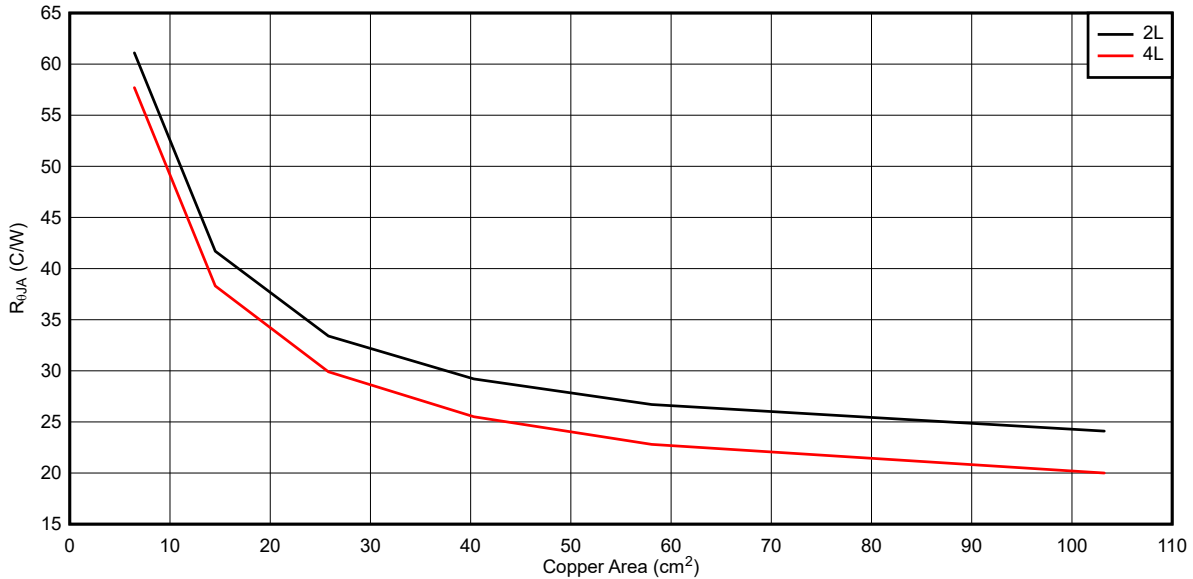
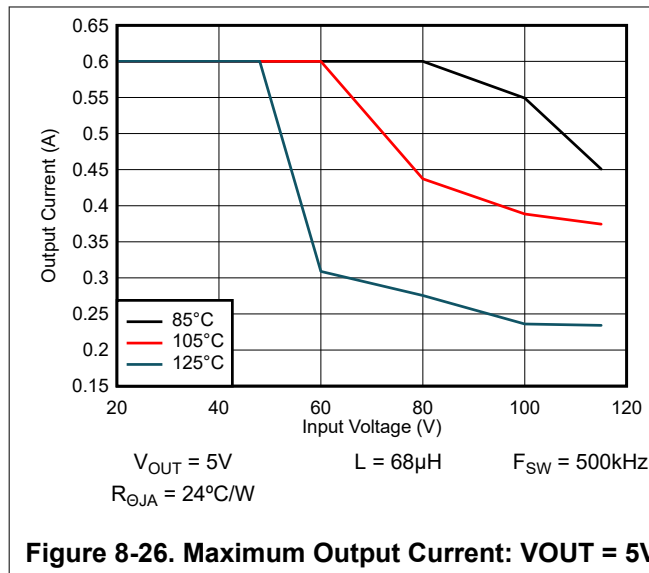
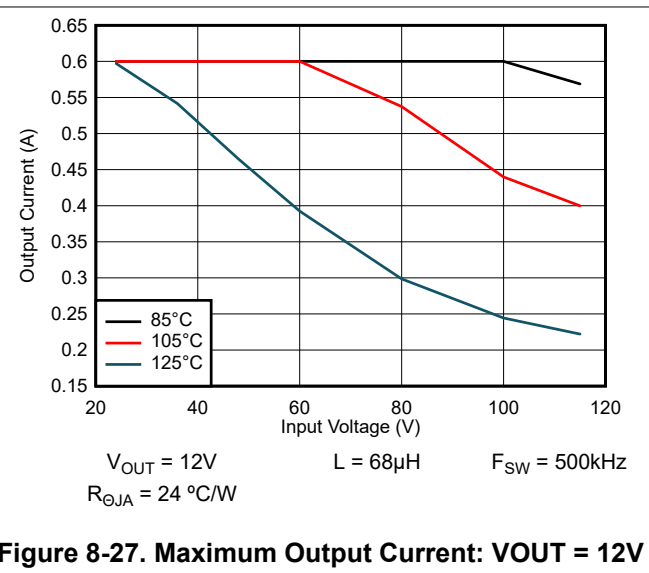

Figure 8-25. Typical $R_{\Theta JA}$ Versus Copper Area for DDA package
Figure 8-26. Maximum Output Current: $V_{OUT} = 5V$
Figure 8-27. Maximum Output Current: $V_{OUT} = 12V$
The LM5168E features a die attach paddle, or "exposed pad" (EP), to provide a place to solder down to the PCB heat-sinking copper. This provides a good heat conduction path from the regulator junction to the heat sink and must be properly soldered to the PCB heat sink copper. Typical examples of $R_{\theta JA}$ can be found in Figure 8-25. The copper area given in the graph is for each layer. The top and bottom layers are 2oz copper each, while the inner layers are 1oz.
Use the data in Figure 8-26 and Figure 8-27 as a guide to determine the maximum output current for a given set of conditions. The particular conditions under which these graphs were taken are indicated in the notes following each graph.
Remember that the data given in Figure 8-25 through Figure 8-27 is for illustration purposes only, and the actual performance in any given application depends on all of the previously mentioned factors.